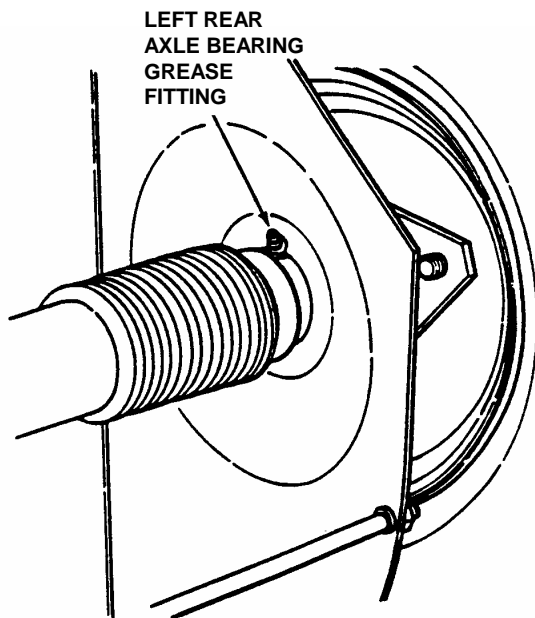

FIGURE 3.8
1. The left rear axle bearing requires three shots of general purpose grease from a grease gun. See Figure 3.8.